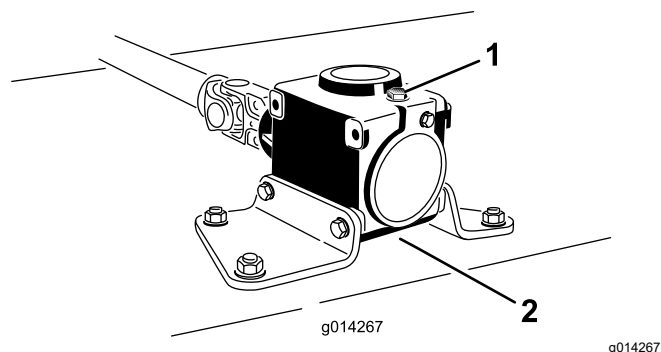

Figure 24
6. Remove the dipstick/fill plug from the top of the gearbox (Figure 24) and make sure that the lubricant is between the marks on the dipstick.
6. Remove the dipstick/fill plug from the top of the gearbox (Figure 24).